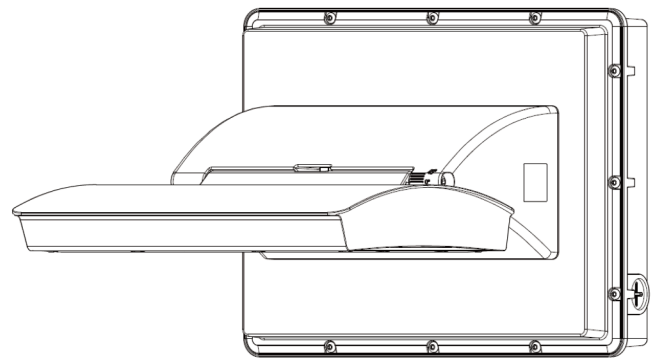

Fig. 4
7. Replace the EM extension cover onto the extension box. Ensure that the gasket in-between the cover and box fits in place. Secure the cover to the box using the twelve (12) M4 screws previously removed in step 1 (**Figure 4**).